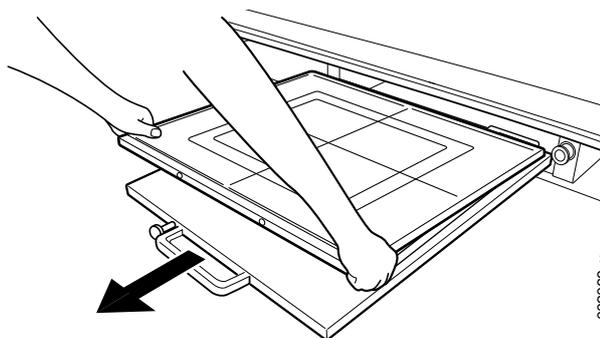

Fig. 4-48 *Detector removal*
2. Remove the detector by pulling it towards you according to Fig. 4-48 *Detector removal*.